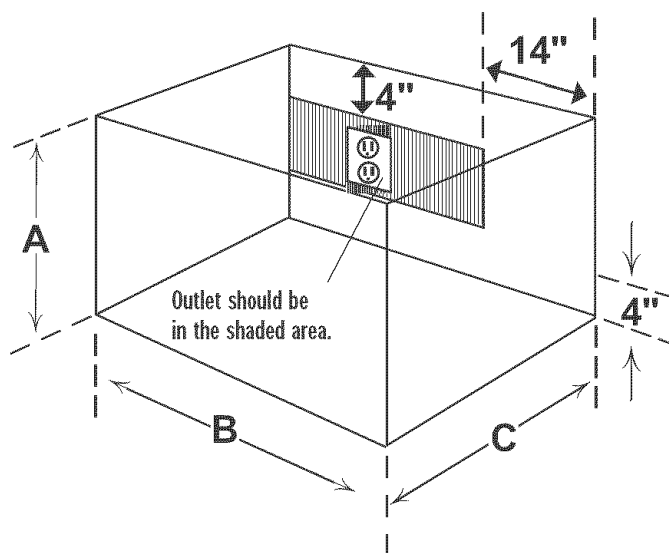

Figure 1
- The cabinet cutout dimensions are shown in Figure 1.
- Outlet can be located anywhere within the shaded area as indicated in Figure 1.